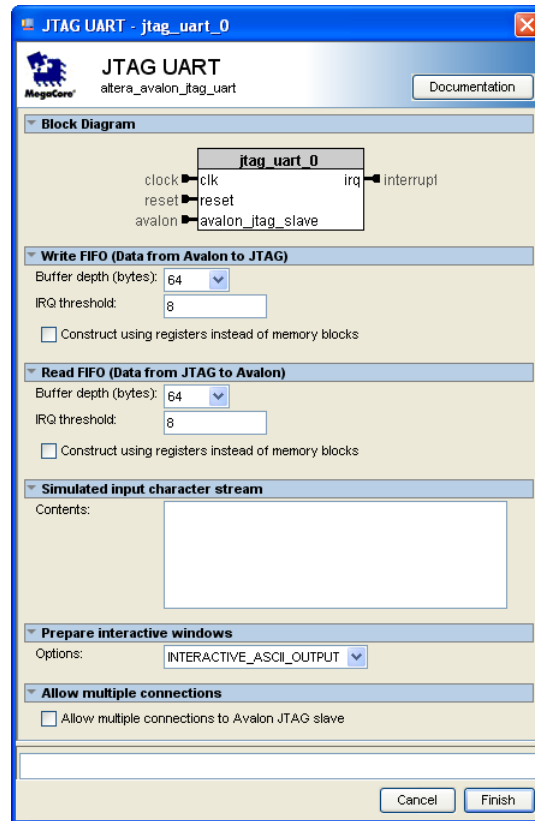

Figure 12. Define the JTAG UART interface.
- Select Interface Protocols > Serial > JTAG UART and click Add to reach the JTAG UART Configuration Wizard in Figure 12